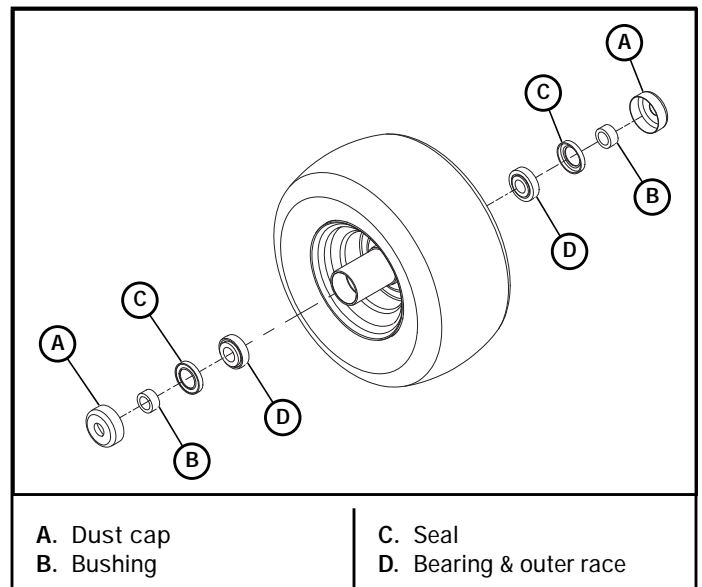

Figure 6-33
5. Insert the bushings through the seal openings and push them in until they contact the tapered roller bearings. Figure 6-33
6. Push the dust caps onto the wheel housing. Figure 6-33